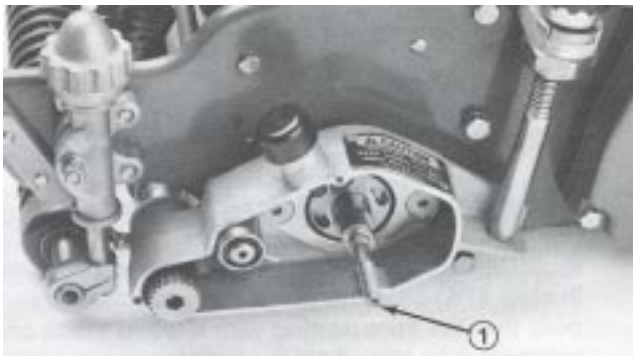

Figure 9
- C. Remove the adapter from the clutch assembly and screw the adapter onto the left reel shaft extension (Fig. 9). Secure the reel from turning with a wood block and torque the clutch adapter to a minimum of 17 ft-lb.